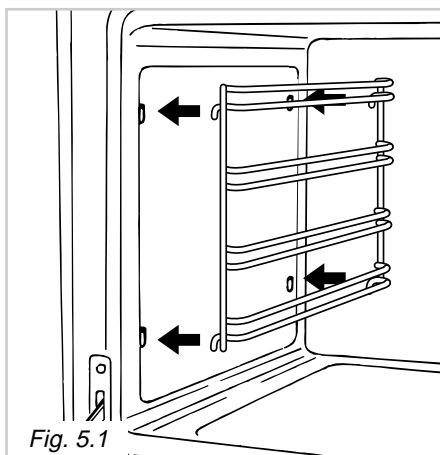

Fig. 5.1
- Fit the side runner frames into the holes on the side walls inside the oven (Fig. 5.1).